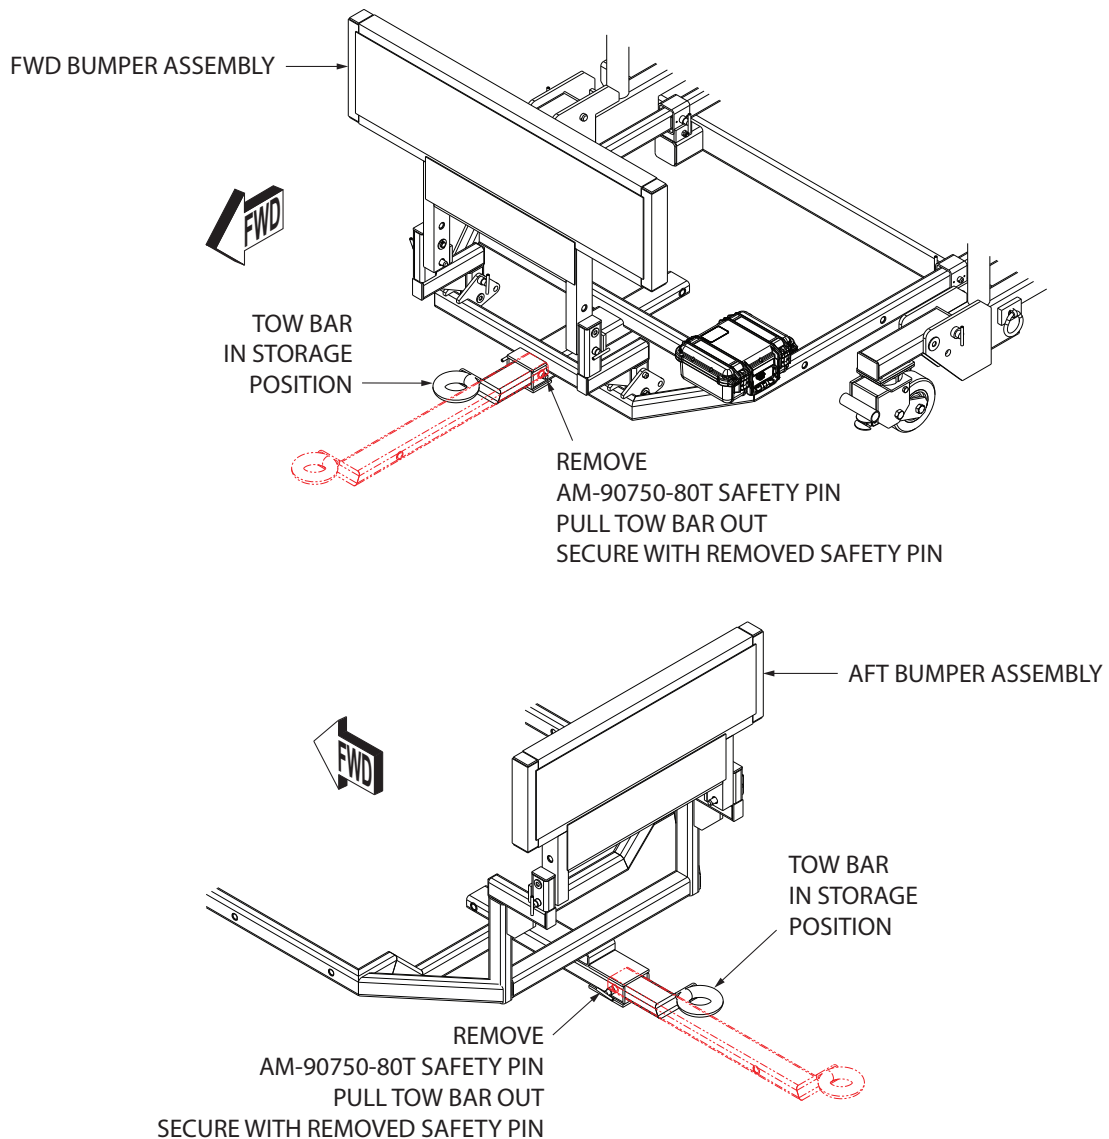

Figure 5.5-1
5.5 Stand Towing (Illustration Figure 5.5-1)